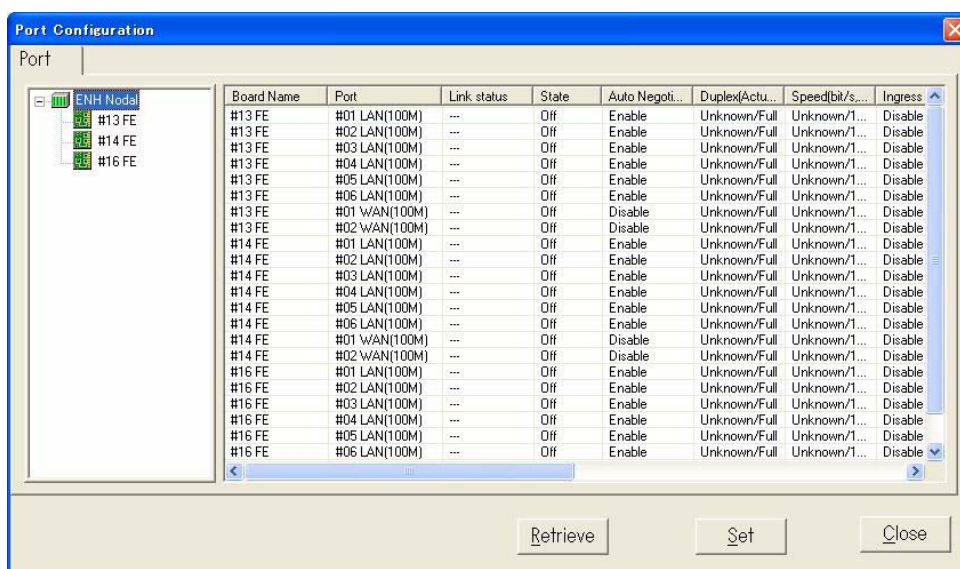

Fig. 4-4-35 Ethernet Port Configuration Dialog Box
- 3 Select **LAN-Interface** from the **Ethernet Port Configuration** menu to open the **Ethernet Port Configuration** dialog box. The Ethernet Port Configuration dialog box shown in **Fig. 4-4-35** appears: